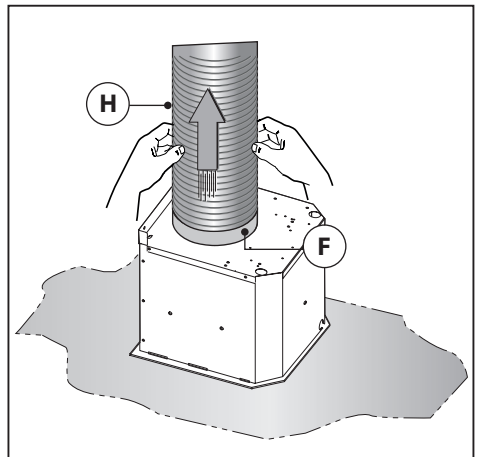
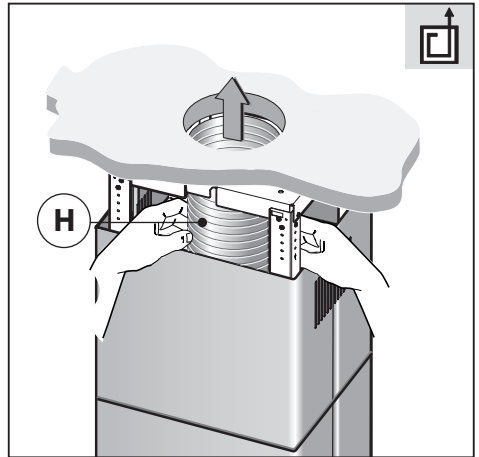

Fig.8
Fig.12
•**Suction version:** fix the air evacuation pipe **H** (not supplied) onto the connection flange **F** (Fig.8). Fix the flexible pipe to the prepared air evacuation hole (Fig.12).
-Fix the air evacuation pipe **H** (not supplied) onto the connection flange **F** (Fig.8).